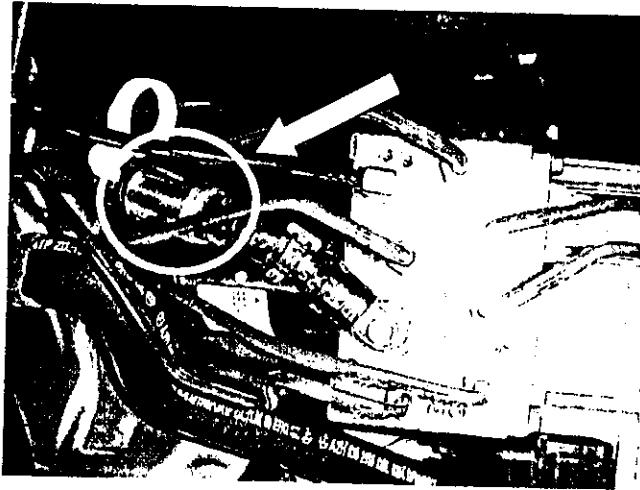

Figure 1 – Pulsation damper
2. Check whether a pulsation damper is installed (see Figure 1).